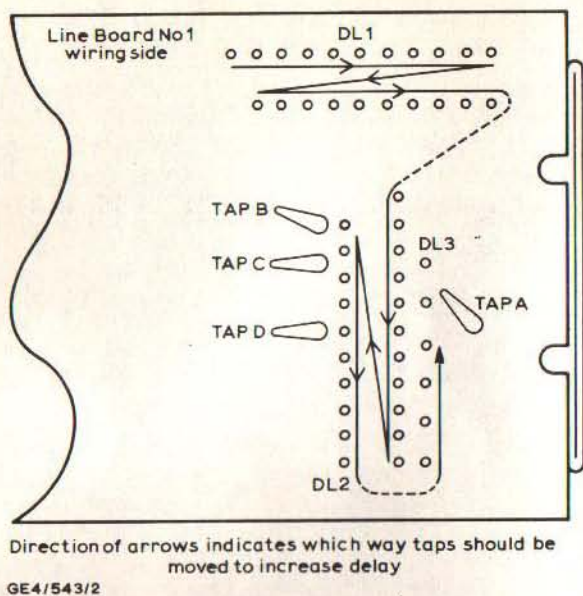

Fig. 2 Delay Line Tap Designations
- If the result is positive move tap B on the pulse circulation delay line one or more taps nearer to the delay line input, i.e. reduce the delay. If the result is negative move tap B one or more taps nearer to the delay line output, i.e. increase the delay. The difference in delay between each tap is 50 ns and so it is possible to set the width of the front porch to within 50 ns, which is the required setting accuracy. Fig. 2 identifies tap B and shows which way to move it to increase the delay.